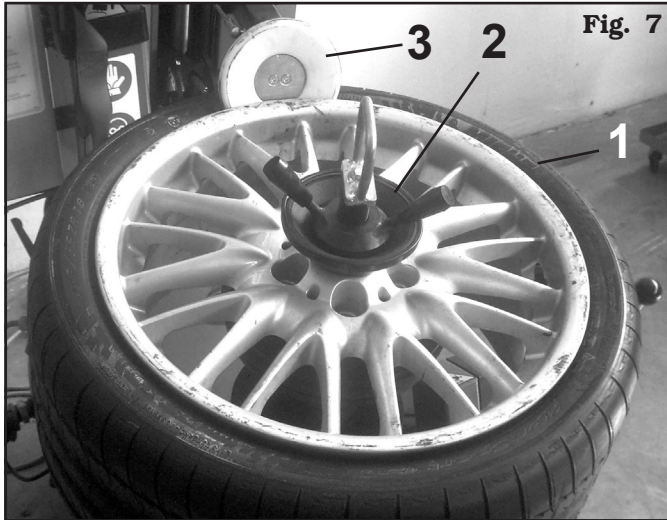

Fig. 7
1 - Place the wheel (Fig. 7 ref. 1) on the machine and lock the rim by using the the locking device (Fig. 7 ref. 2).
Carry out the bead breaking of tyre upper bead using roll (Fig. 7 ref. 3).